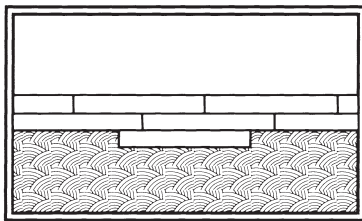

Fig. 35
- Start installing the plank along the center line (Fig. 35).